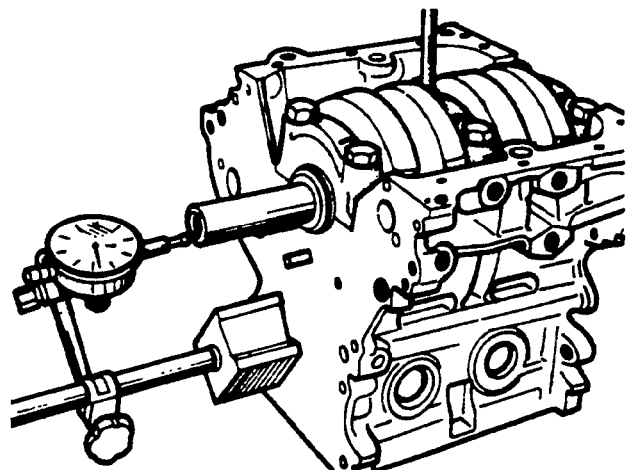

FIGURE 9-55. CHECKING THE CRANKSHAFT END PLAY
2. With the crankshaft and bearing caps still in the cylinder block, check the crankshaft end play by means of a dial indicator shown in Figure 9-55. If the end play exceeds the service limit, replace the rear bearing.